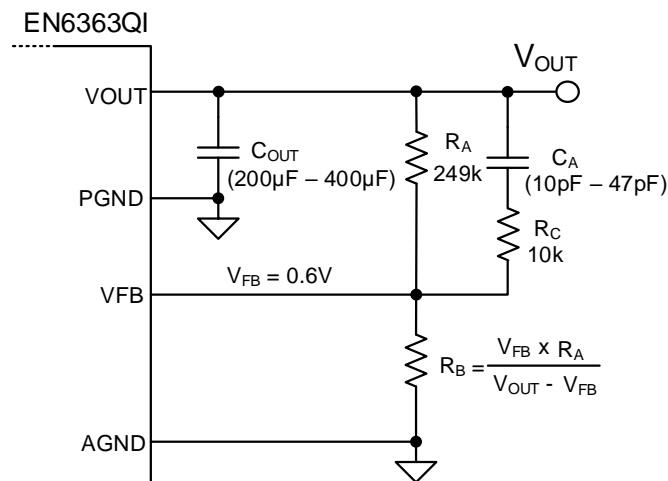

Figure 2: VOUT Resistor Divider & Compensation Capacitor
5) Output Voltage Settings (J1) - The output voltage may be adjusted quickly by placing a jumper one of the selections on J1. The voltages are pre-set by the resistors R33, R25, R18, R12, R10 which corresponds to 3.3V, 2.5V, 1.8V, 1.2V and 1.0V respectively. The compensation CA may be adjusted according to Table 1 for best results. The output voltage may also be adjusted to any voltage as indicated by the equation for R_B shown in Figure 2.